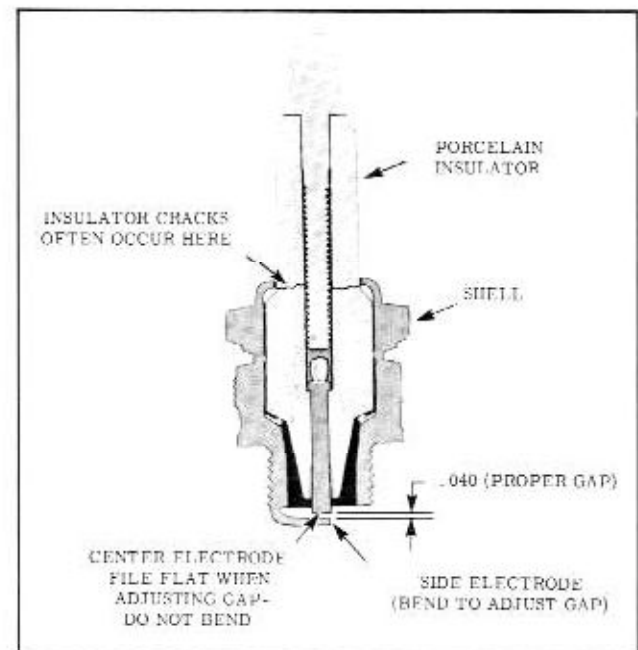

Fig. 13-51 Spark Plug Construction
- All plugs should be checked for cracks in the porcelain. These cracks are not always visible because they may be hidden by the steel body. (Fig. 13-51) Use a spark plug tester to test plugs.